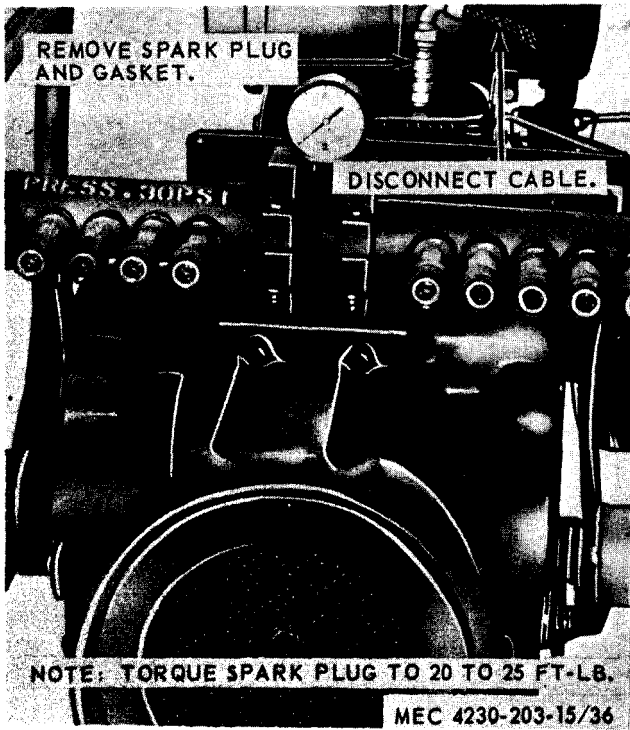

Figure 4-18. Spark plug, removal and installation.
a. **Removal.** Refer to figure 4-18 and remove the spark plug.
(1) Clean the spark plug on a spark plug cleaner. Clean the cable with a cloth dampened with solvent and dry thoroughly.
(2) Inspect for cracks, breaks, damaged or burned electrodes, and other damage.
(3) Replace a damaged or defective sparkplug.
d. **Installation.** Refer to figure 4-18 and install the spark plug.